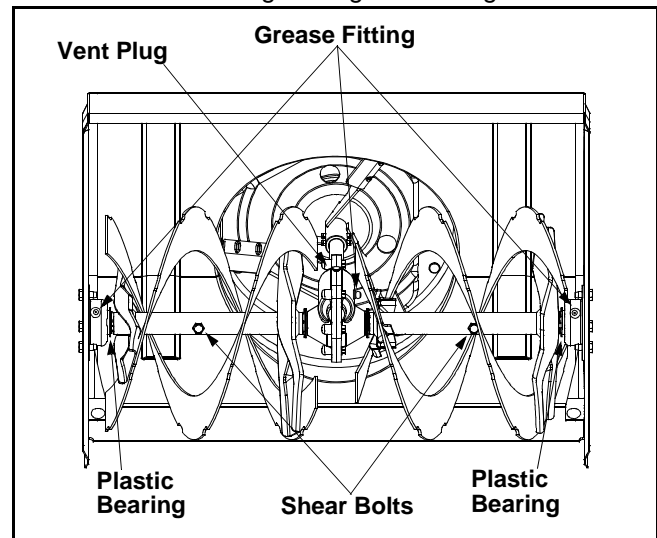

Figure 13
At least once a season, remove the shear bolts on the auger shaft. Spray lubricant inside the shaft. Also lubricate the plastic auger bearings at least once a season and grease the fittings on the end of the auger shaft with a standard grease gun. See Figure 13.
The gear case is equipped with a grease fitting on the left housing and should be lubricated with Shell Alvania grease EPR00, part number 737-0168 every 25 hours. See Figure 13.
- The augers are secured to the spiral shaft with two shear bolts and hex lock nuts. If you hit a hard foreign object or ice jam, the snow thrower is designed so that the bolts may shear. Refer to Figure 13.